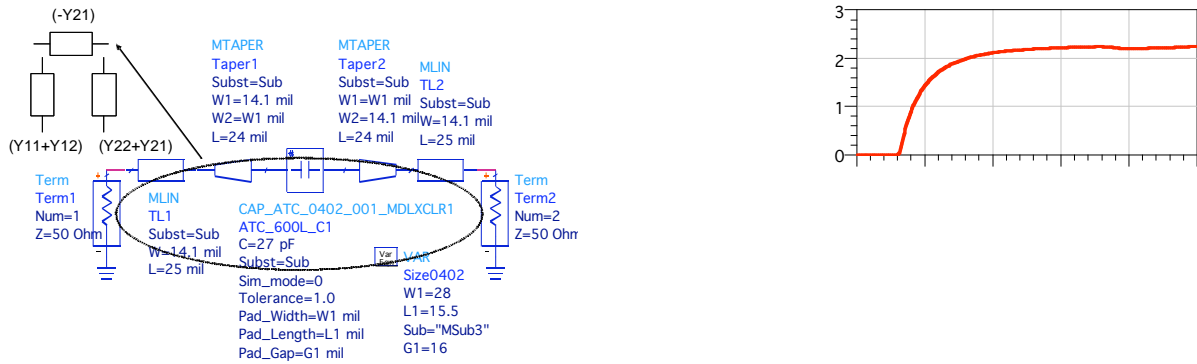

Figure 6. ADS schematic used to extract L_s (right). Extracted values for nominal Capacitance (C) and series Inductance (L_s) (left)
Figure 6 shows the schematic of the circuit used to extract the equivalent capacitance (C) and inductance (L_s) of the series element in the matching network; these values are found by using Y_{21} . When $-\text{Imag}(Y_{21}) > 0$, $C = -\text{Imag}(Y_{21}) / (2\pi f)$, and when $-\text{Imag}(Y_{21}) < 0$, $L_s = 1 / (\text{Imag}(Y_{21}) 2\pi f)$. The microstrip and taper sections are included with the capacitor effects in this calculation. It is interesting to note that the L_s value is fairly constant at ~ 2.2 nH after the SRF.